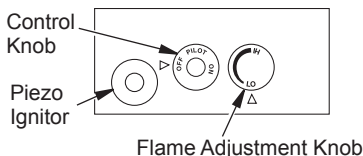

Figure 18 - Setting Control Knobs
6. Press in and turn control knob counterclockwise  to the PILOT position. Press in control knob for five (5) seconds (see Figure 18).
4. Press in and turn control knob clockwise  to the OFF position (see Figure 18).